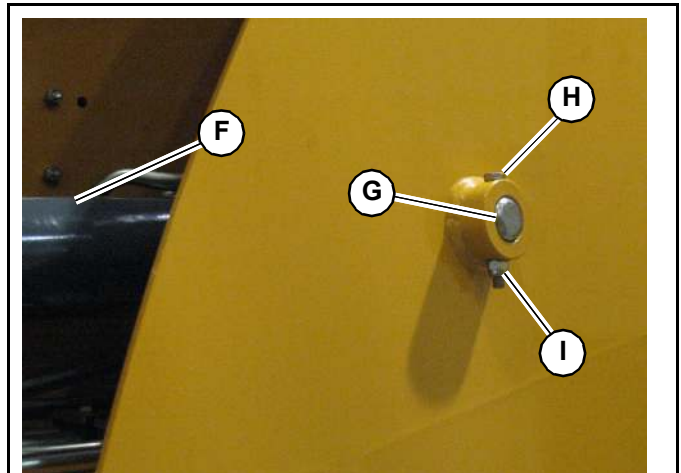

Fig. 212 – Base End Pivot Pin
4. Position lift cylinder (F, Fig. 212) to chassis pivot pin opening and install base end pivot pin (G).